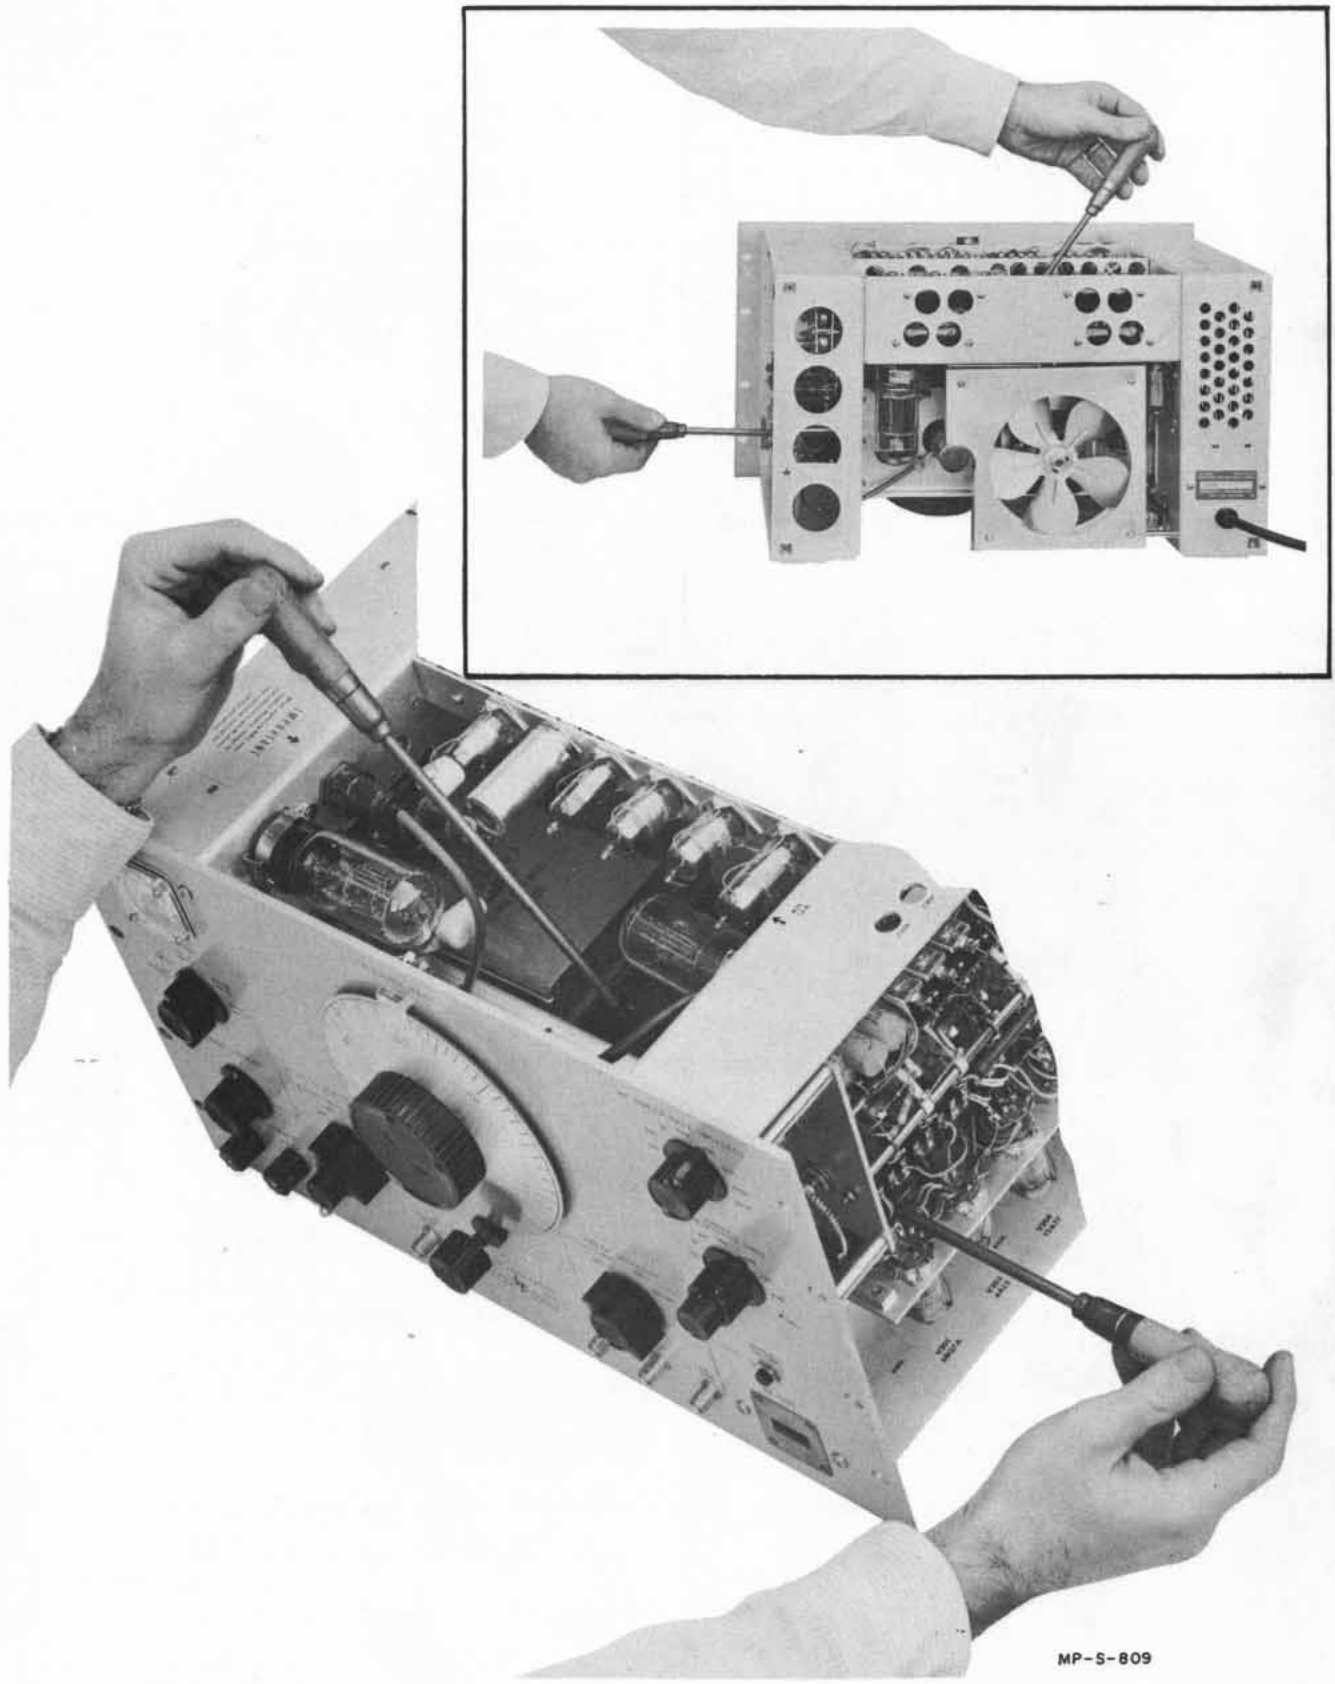

Figure 4-9. Positioning the BWO Tube at Front and Rear of Magnet
- 5) Using a #10 Allen wrench mounted in a driver-handle 8 to 10 inches long, unscrew the two #10 Allen screws at the front and rear of the magnet castings 1/2 inch. The front and rear screws are accessible from the top and right side of the instrument (see figure 4-9).
The capsule is supported at three points which are 120° apart. One is a spring-loaded ball and the other points are the two #10 Allen screws. By carefully adjusting the two screws the capsule can be firmly supported and accurately centered (see figure 4-9).
be as close as possible before a final electrical adjustment is attempted (see figure 4-9).